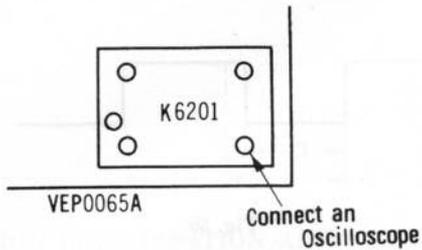

Fig. 43
1. Connect an oscilloscope to the relay of VEP0065A as shown in Fig. 43.